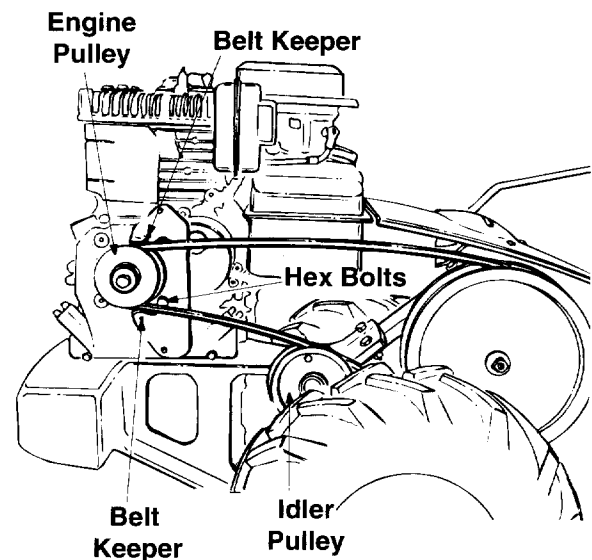

Figure 16
3. Remove the belt keeper assembly located behind the engine pulley by removing two hex bolts and lock washers. See Figure 16.
**NOTE:** Upon reassembly, make certain the belt is routed over the idler pulley and inside of belt keepers by engine pulley. See Figure 16.